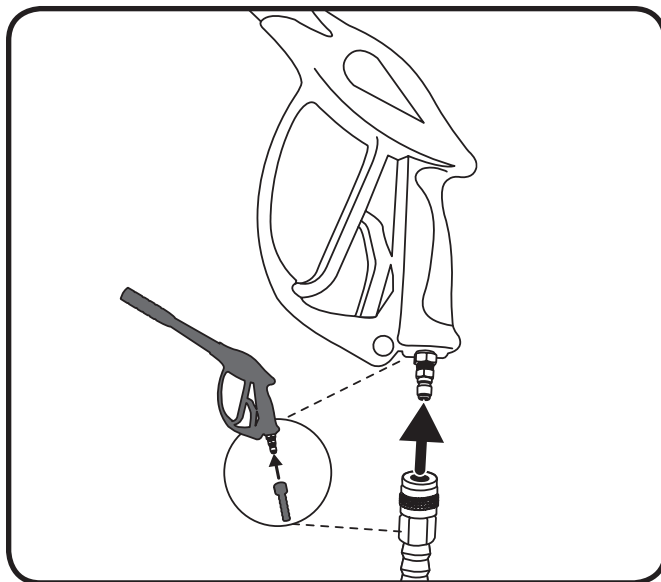

Figure 3-4
1. Attach high pressure hose to gun. Tighten securely. Ver la Figure 3-4.